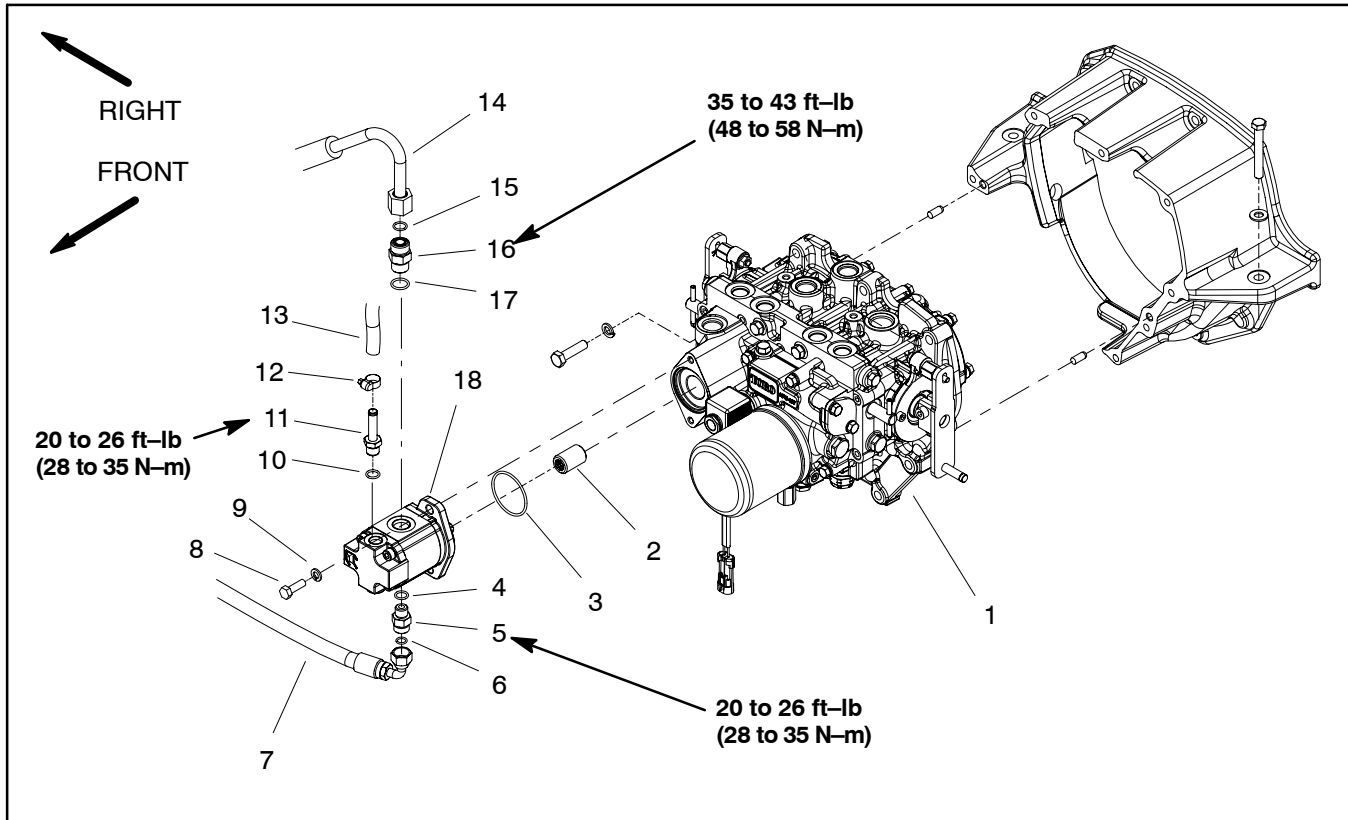

Figure 94
### Removal (Fig. 94)
### Installation (Fig. 94)
1. If hydraulic fittings were removed from pump, lubricate and install new O-rings to fitting. Tighten fittings to torque values identified in Figure 94 (see Hydraulic Fitting Installation in the General Information section of this chapter).
2. Slide coupler onto transmission shaft. Lubricate O-ring (item 3) with grease and position on flange of gear pump.
3. Position gear pump to the transmission and secure with two (2) cap screws and lock washers.